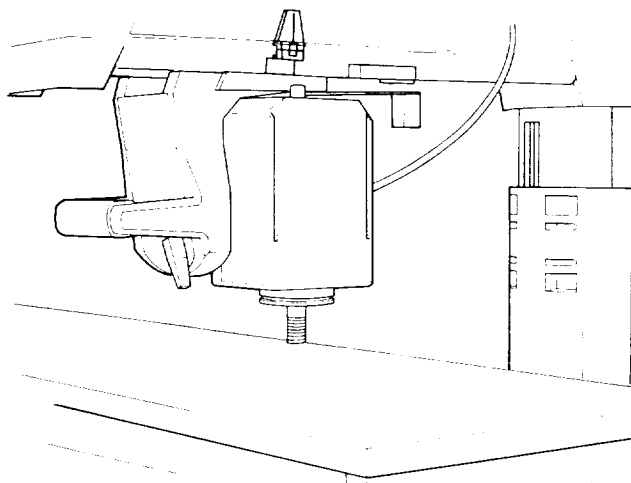

Fig. 52
3. Unlock the *bevel lock*, and turn the *motor* so that the *arbor* is perpendicular to the *table*. (Figure 52).